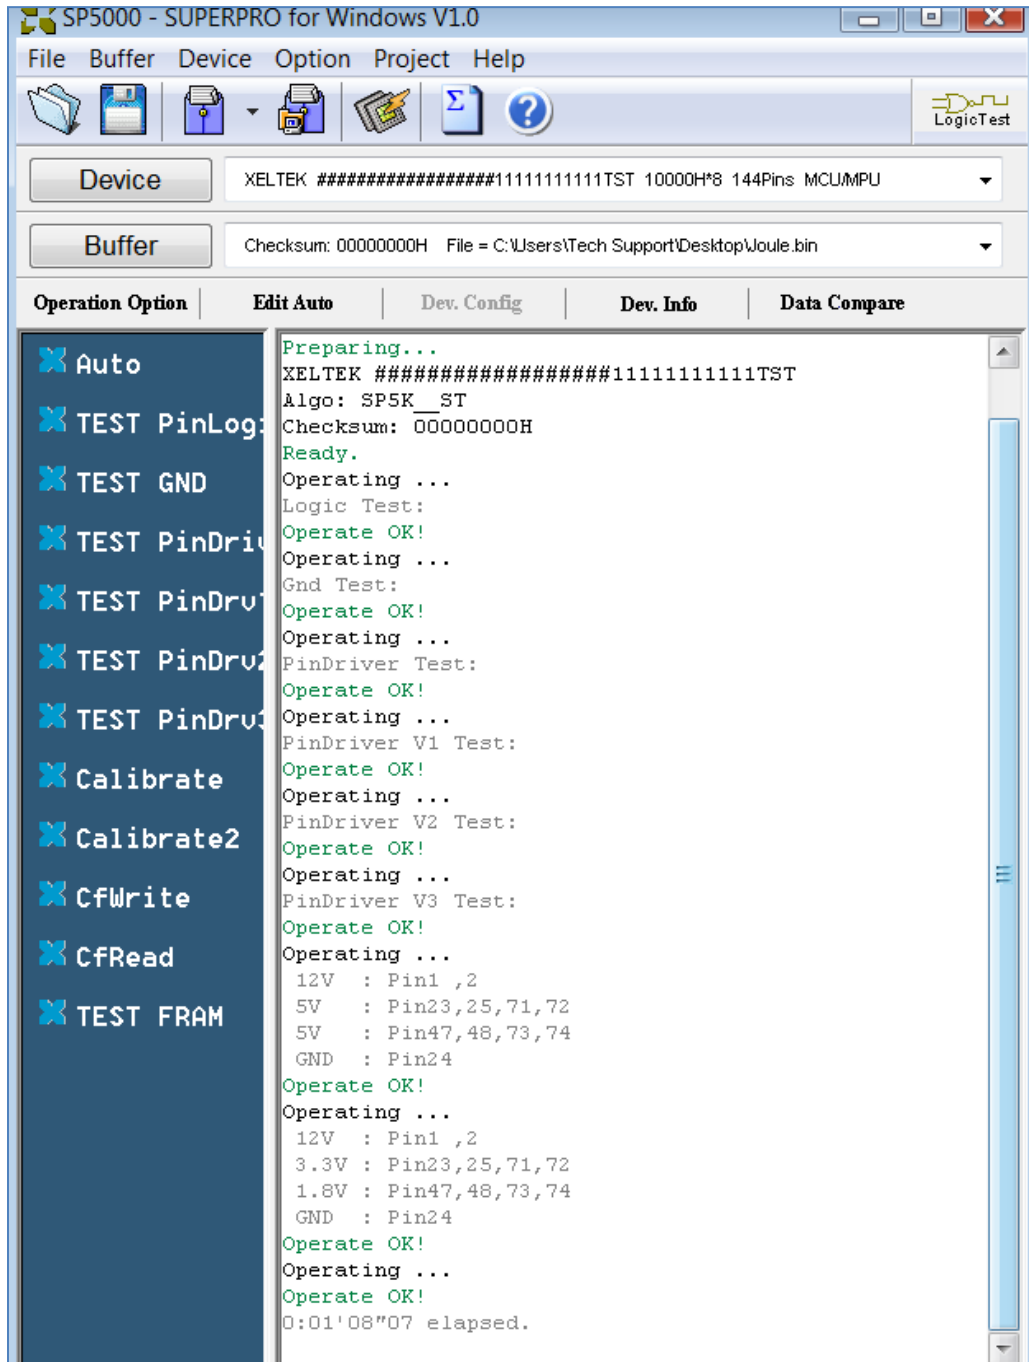

Figure 3: *Make sure there are no numbers below each Pin-Driver Test even if result shows "Operation OK!".
- 7) Running "Auto" should yield the result in Figure 3, otherwise SuperPro5000 has a problem.